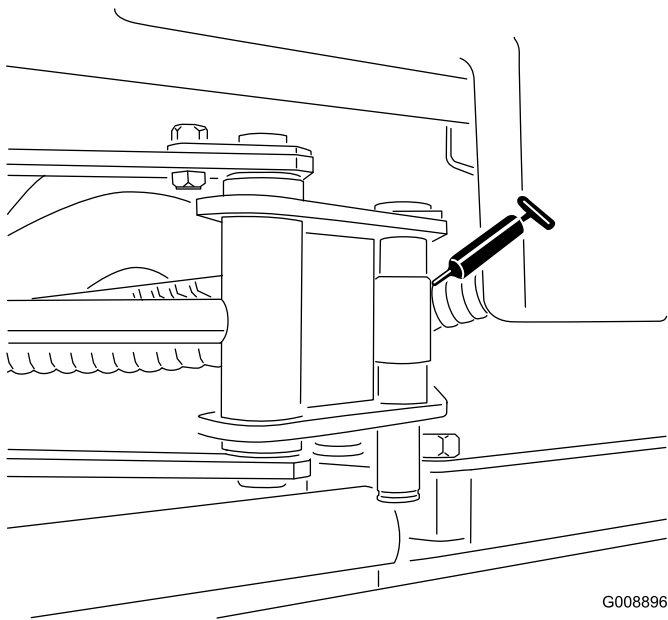

Figure 51
- SideWinder cylinder ends (2; Model 03171 only) (Figure 51)